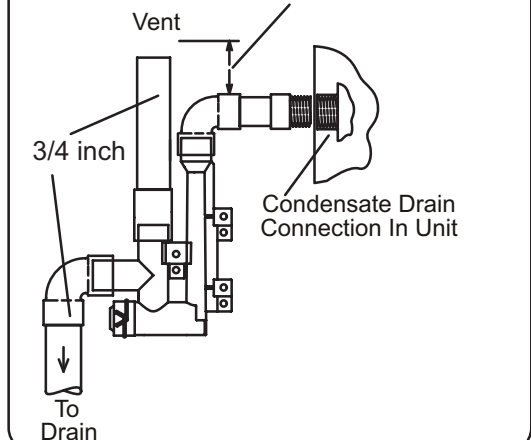

Figure 48. Trap Drain Assembly Using 1/2" PVC or 3/4" PVC
3. Install the cap over the clean out opening at the base of the trap. Secure with clamp. See Figure 48.
4. Install drain trap using appropriate PVC fittings, glue all joints. Glue the provided drain trap as shown in Figure 48. Route the condensate line to an open drain. Condensate line must maintain a 1/4" downward slope from the furnace to the drain.